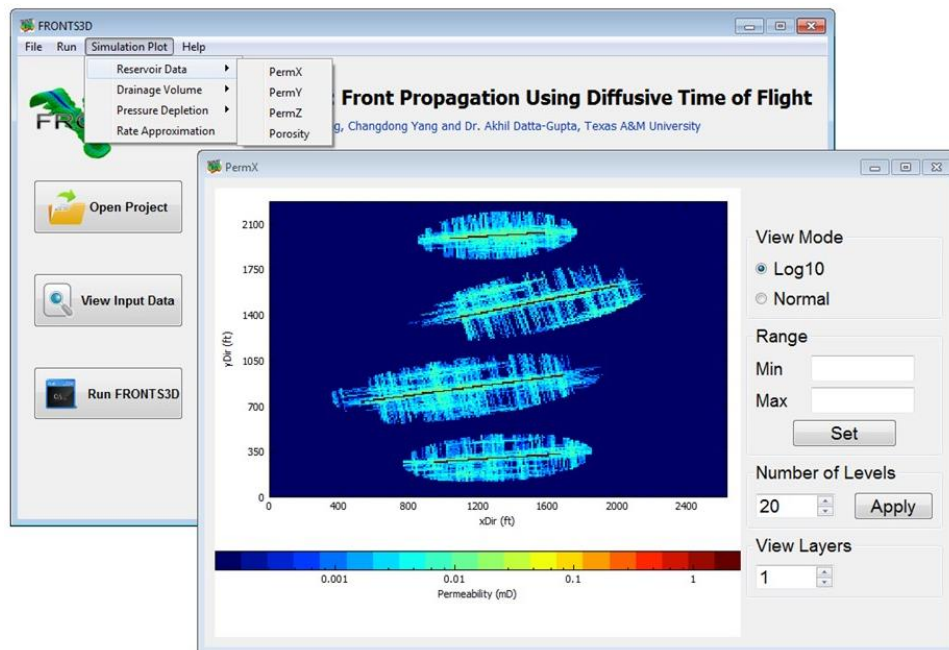

Figure 7. Select and View Initial Reservoir Data
- Click Simulation Plot → Reservoir Data, you can view initial data plots in the reservoir such as permeability and porosity. **(Figure 7)**.